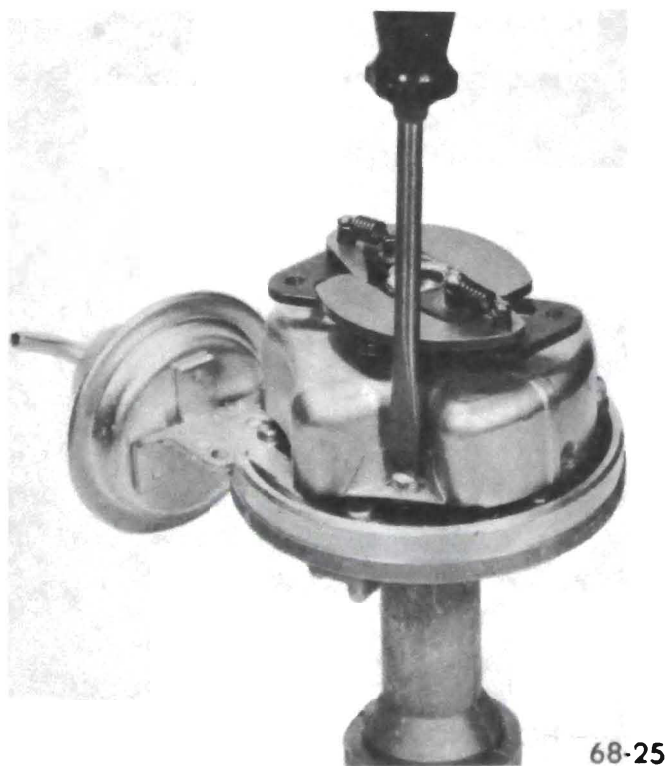

Figure 68-23 Removing Screws
2. Remove two screws holding ignition point shield. See Figure 68-23.